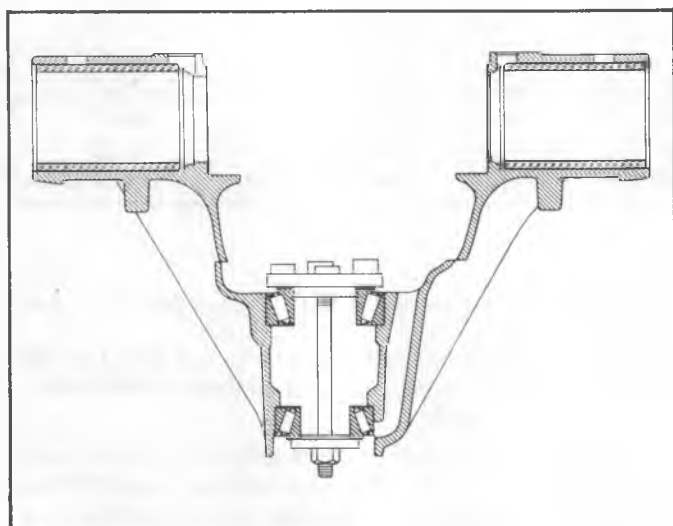

Fig. 0-3-Gauge Plate Installed
4. Hold the stud stationary with a wrench on the flats and tighten hex nut until 20 in. lbs. of torque are required to rotate bearings. See Figure 0-3.